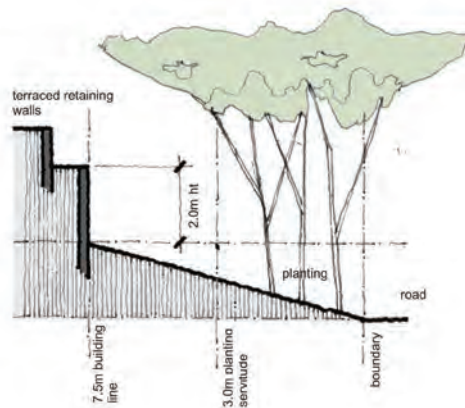

fig 10: Typical diagram illustrating stepped retaining wall & site constraints (site access from bottom of site)
- Terraced retaining walls with planting (see fig.10)